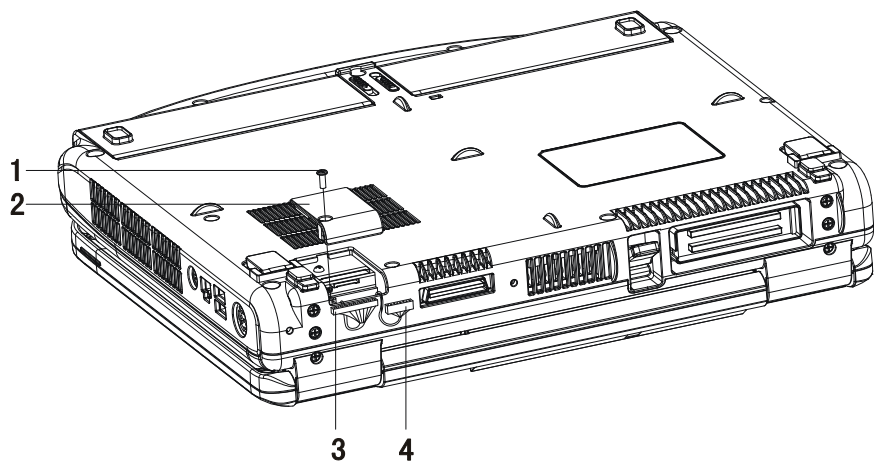

Figure 4-3 Removing Cable Cover
- 1) As shown in Figure 4-3, remove screws, remove bottom cover and cable cover;